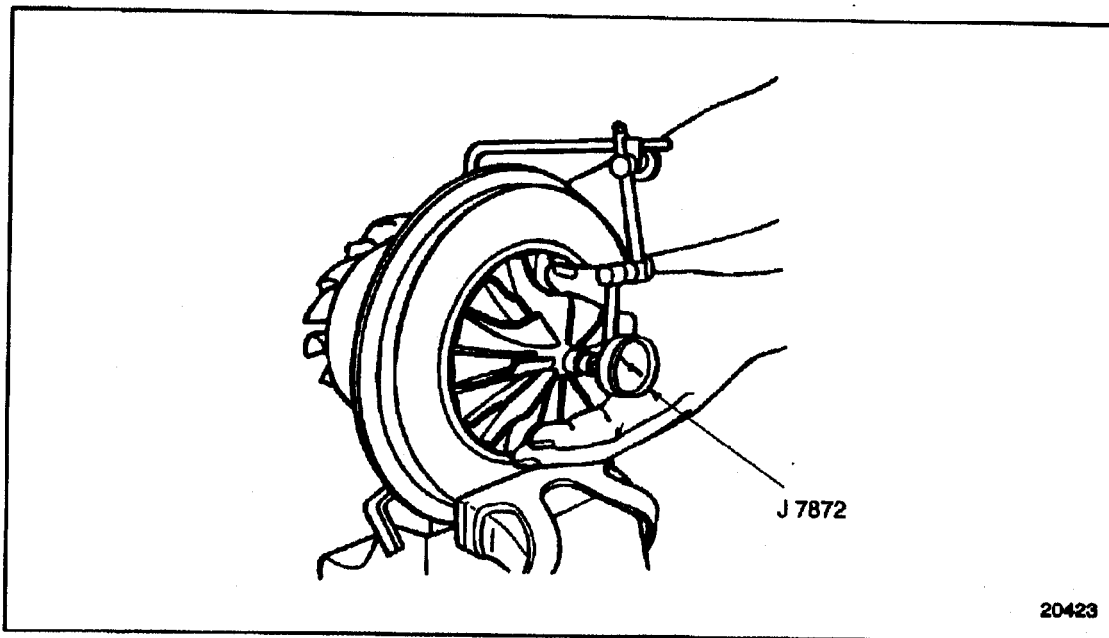

Figure 6-44 **Checking Bearing Axial End Play**
- [a] Clamp the center housing assembly in a bench vise equipped with soft jaws. See Figure 6-44.
- [b] Fasten the dial indicator and magnetic clamp, J 7872-2 , to the center housing so that the indicator tip rests on the end of the rotating shaft on the compressor side. See Figure 6-44.